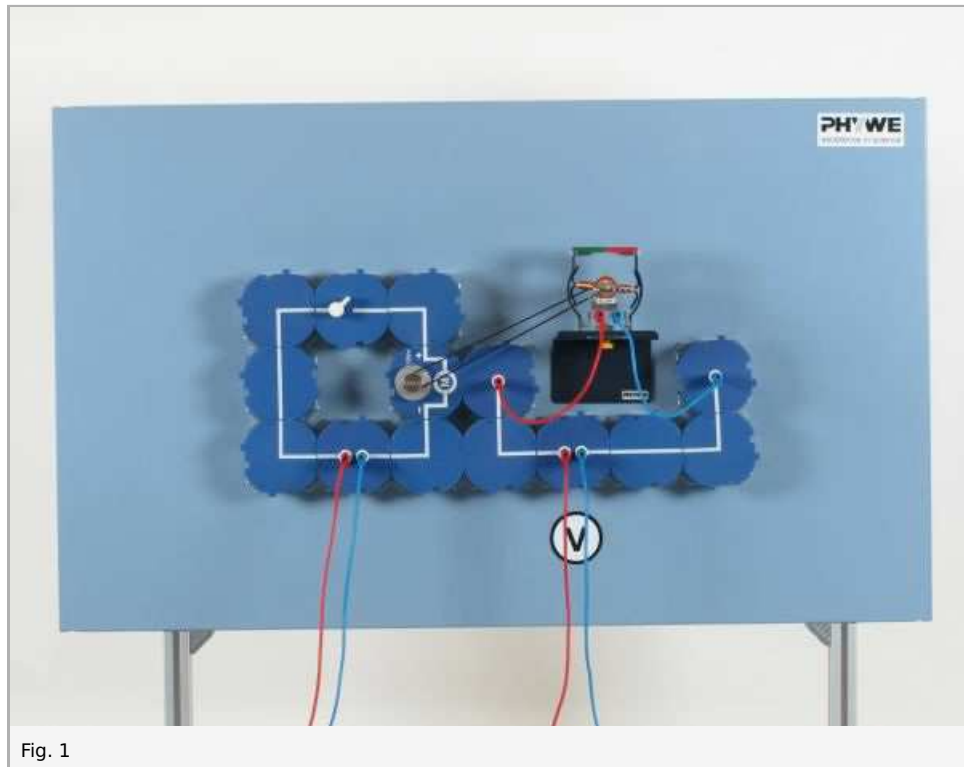

Fig. 1
- Set up the experiment as shown in Fig. 1, but first without the driving belt; select the 1 00 m V- measurement range and set the polarity of the ADM 2 so that it deflects to the right when the armature revolves clockwise
- Slowly, and as uniformly as possible, turn the rotor clockwise by hand; observe the ADM 2 (1)
- Reverse the positions of the magnetic poles and turn the rotor as before, and in the same direction; observe the ADM 2 (2)
- Switch on the power supply, close the switch and observe the ADM 2 (3)